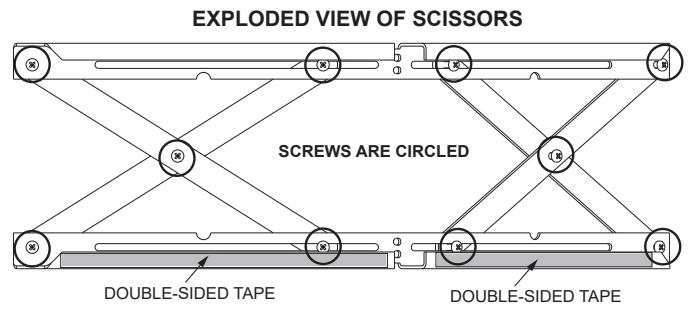

Figure 24.1
1. The 10 screws on each set of scissors will already be loose when shipped (**Figure 24.1**).